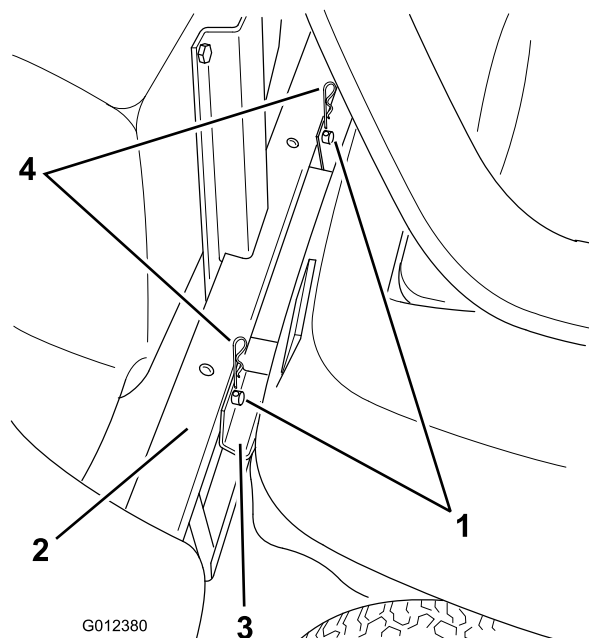

Figure 6
- Rotate the grass catcher up so that the pins on the mounting frame slide through the holes in the upper mounting bracket on the tractor (Figure 6).
4. Remove the hairpin cotters that secure the grass basket to the upper mounting bracket on the mower (Figure 6).